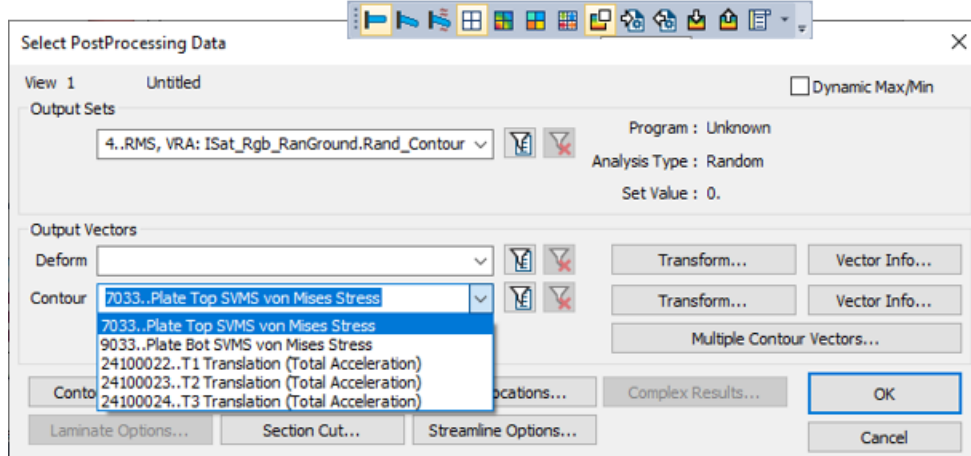

Figure 4-45. Select von Mises Stress for the first contour plot and turn off averaging.
- When the solver has finished, click the *Output* tab's **Plot Contour** button to examine the results in Femap. Use Femap's  toolbar button to open the *Select PostProcessing Data* dialog (Figure 4-45). Select *Plate Top von Mises* from the *Contour* pulldown. Click **OK** to display the contours.